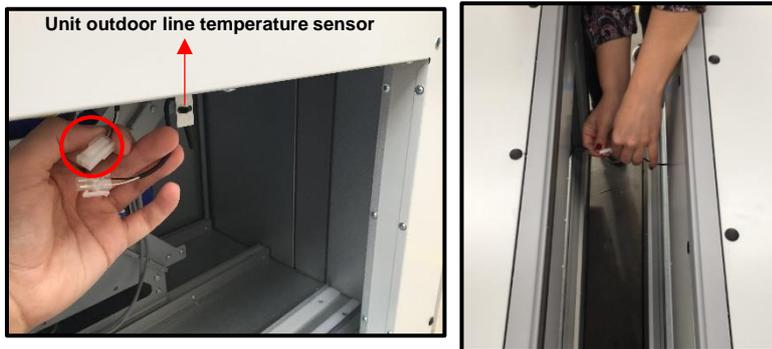

Fig. 58
2. Remove the temperature sensor from the unit outdoor line. Bring the module and device closer together. Connect the device connector and the water after heater module connector each other. (Fig. 58)